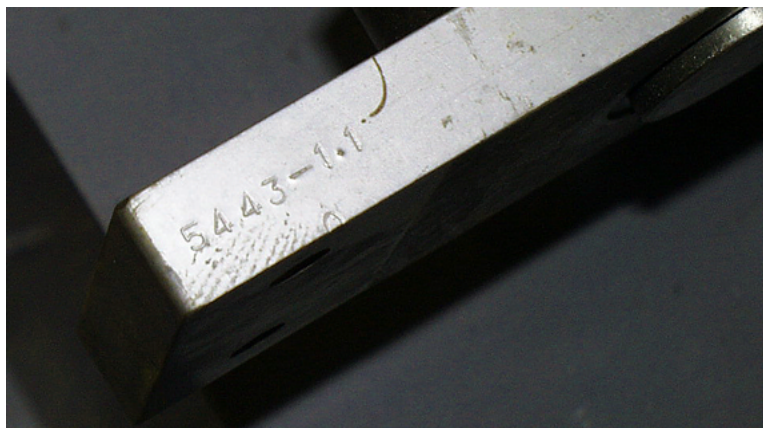

Figure 3
- 107 In the cell, attach the pair of calibration arms to the dyno. Each dynamometer has its own set of arms identified by the matching ID number found on the arm and on the arm attachment. See Figure 3. The ID number also appears on the cover of the metal storage container of the weights. Correct connection of each arm is evident by the completion of the small circle between the set of identical numbers on the arm and the arm attachment.